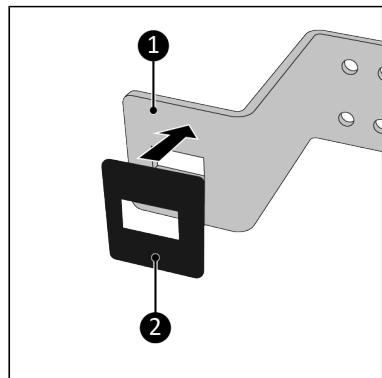

Figure 57.
6. Stick the sandpaper (Figure 57, pos. 2) on the inside of the bottom part of the bracket (Figure 57 pos. 1).